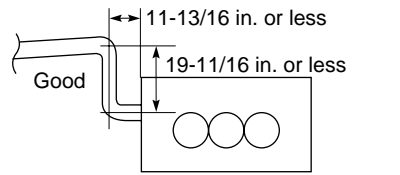

Fig. 3-82
- If it is necessary to increase the height of the drain pipe, the section directly after the connection port can be raised a maximum of 19-11/16 in. Do not raise it any higher than 19-11/16 in., as this could result in water leaks. (Fig. 3-82)